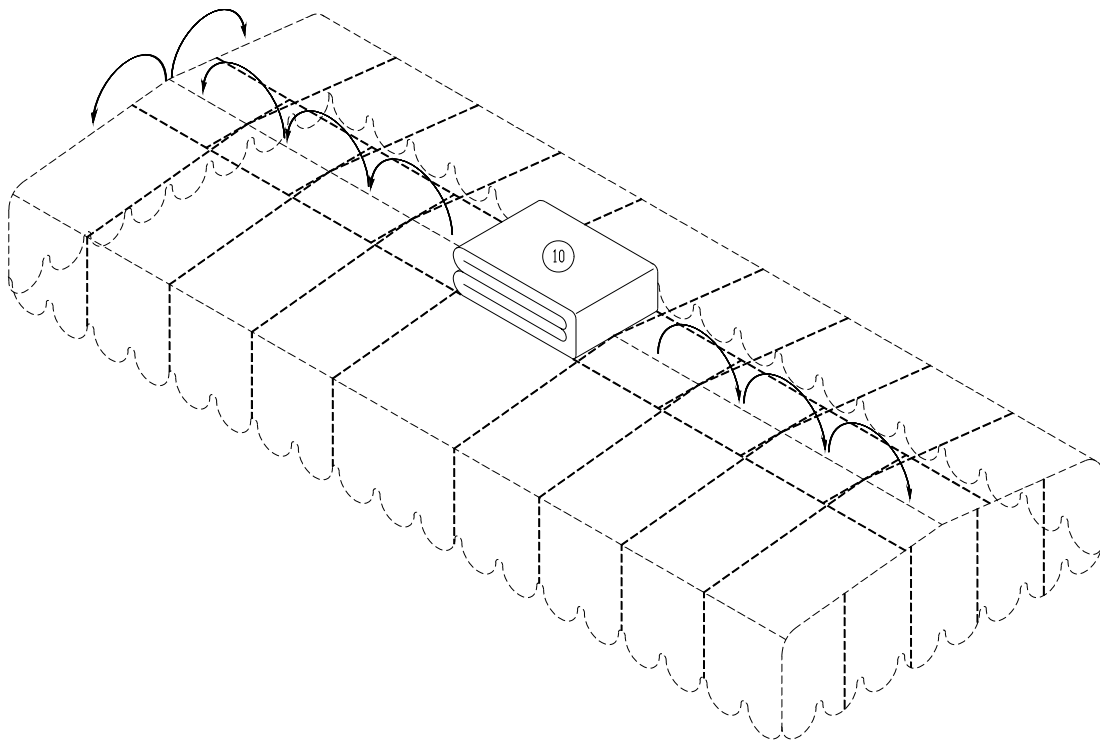

Figure 2-8.
15. Refer to **Figure 2-8**. Place the canopy fabric bundle on top of the canopy frame and unfold down the length of the frame; then unfold across the width. Pull fabric snugly over the frame.